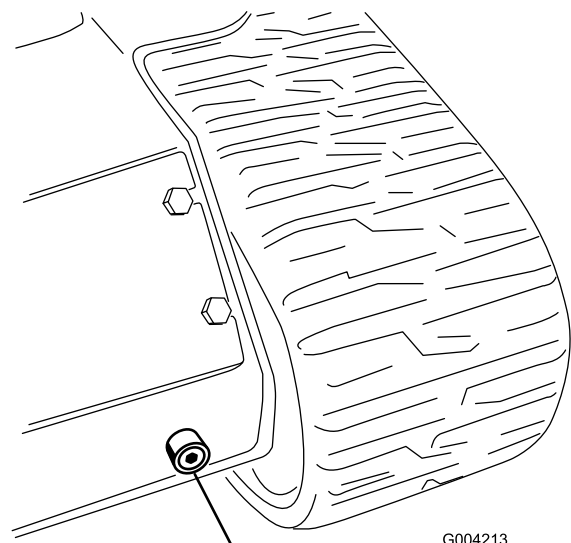

**Figure 56**
5. Remove the hydraulic tank cap and dipstick (Figure 56).